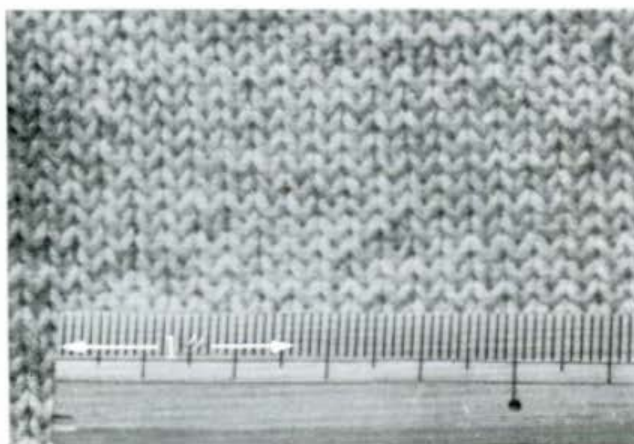

Fig. 21
- a. Determine the proper gauge by making a swatch. Knit a small test piece on about 30 needles, working sets of 30 rows, each set in a different tension. Knit a single row of a different color between tension changes for easy identification. Block (press) the swatch before measuring for correctness. (See Fig.21)